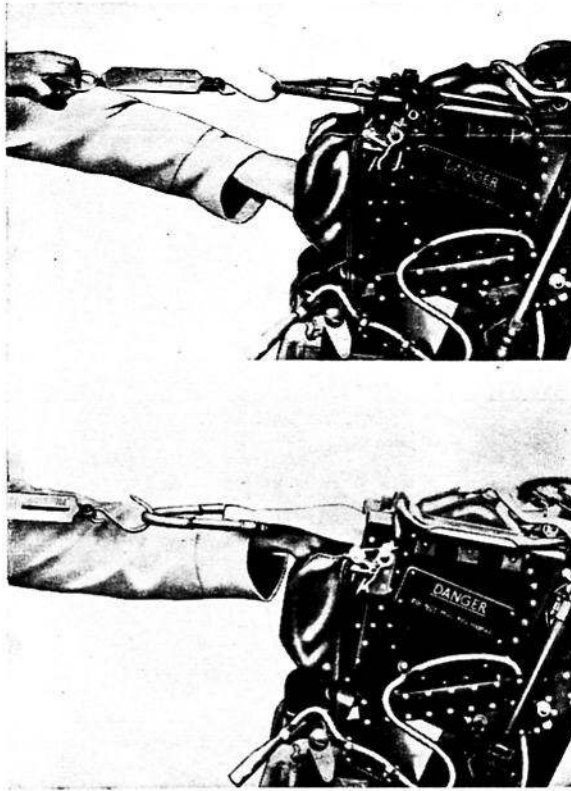

Fig. 19. Testing the face screen
28. Connect a spring balance to the firing handle (fig. 19) and pull until the spring-loaded plungers disengage, watching the scale whilst doing so. The face screen should not pull out of its housing until the scale registers 25 to 45 lb.